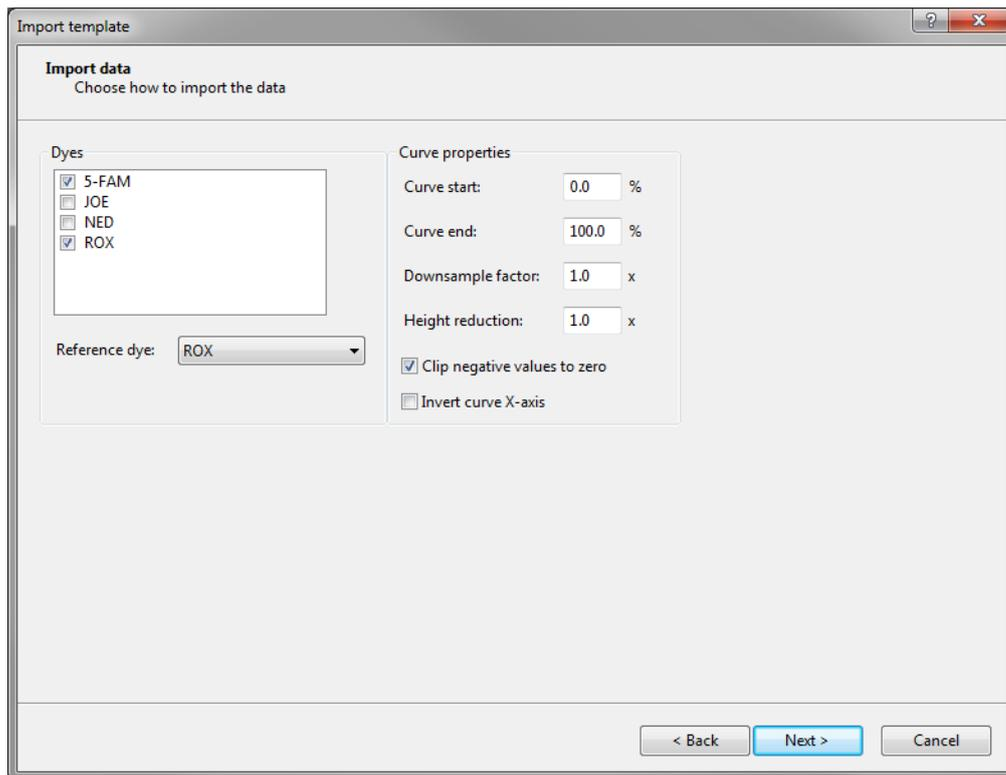

Figure 5: Specify how to import the data.
13. Make sure *ROX* is selected as reference dye and uncheck the dyes *JOE* and *NED* to prevent the import of these channels (see Figure 5).